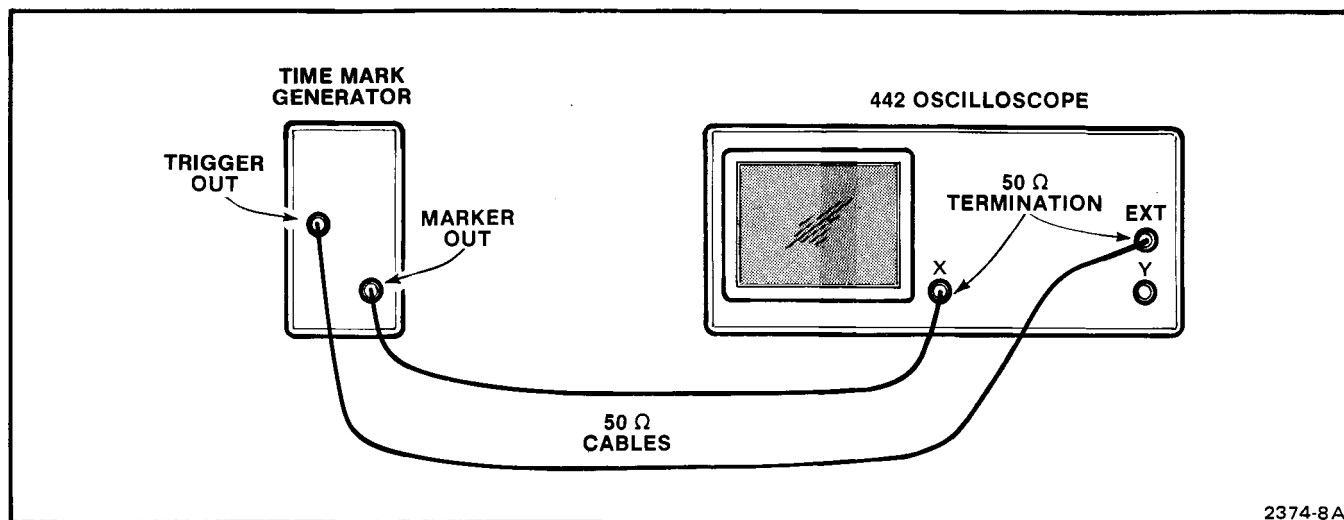

Figure 4-4. Timing accuracy check test setup.
a. Connect the test equipment as shown in Figure 4-4.